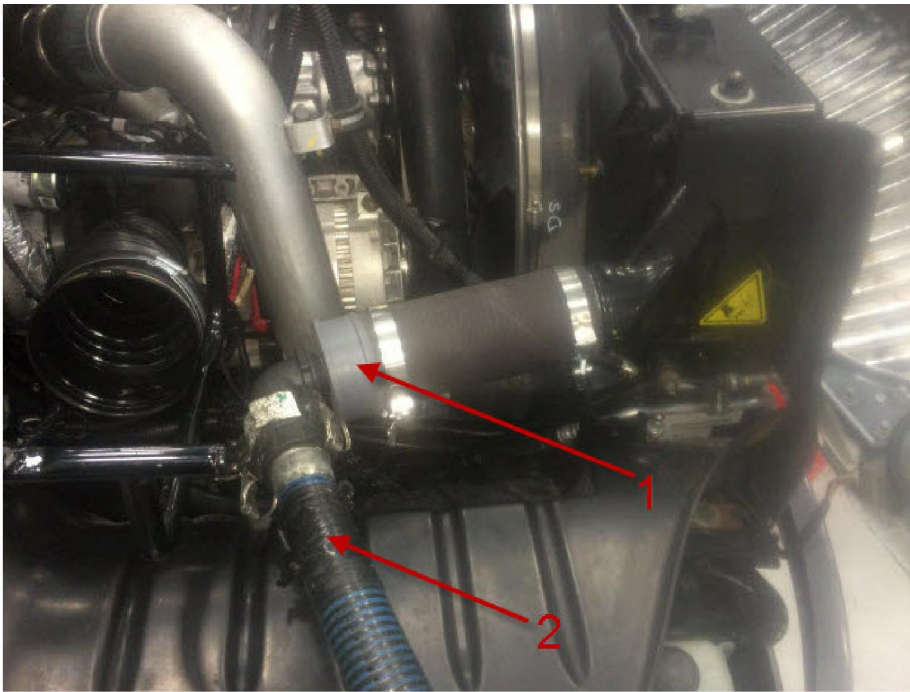

Figure 4. Inlet Adapter.
6. Connect CMS FLOW RETURN hose (Figure 4, Item 2) to inlet adapter (Figure 4, Item 1).
9. Disconnect CMS FLOW RETURN hose (Figure 4, Item 2) from inlet adapter (Figure 4, Item 1).